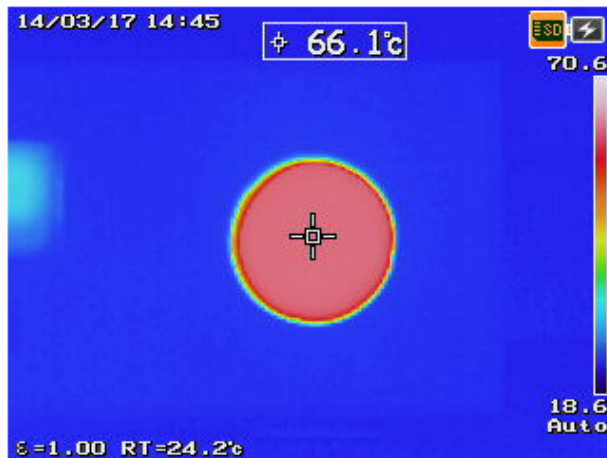

Figure 1-2 Black body source image
- Figure 1-2 Black body source image 6
- 5 Ensure that the image of the black body source is displayed at the center of the U5855A LCD screen. Figure 1-2 shows an example of the image when performing the verification.